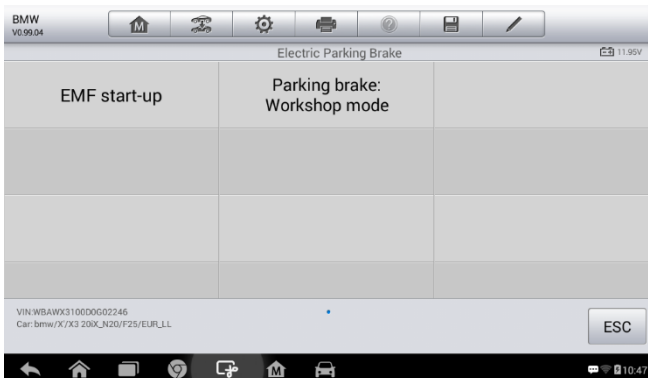

Figure 5-5 Sample EPB Function List
3. Tap the service you want in the EPB function list, the list may vary for different vehicles being tested (Figure 5.5).